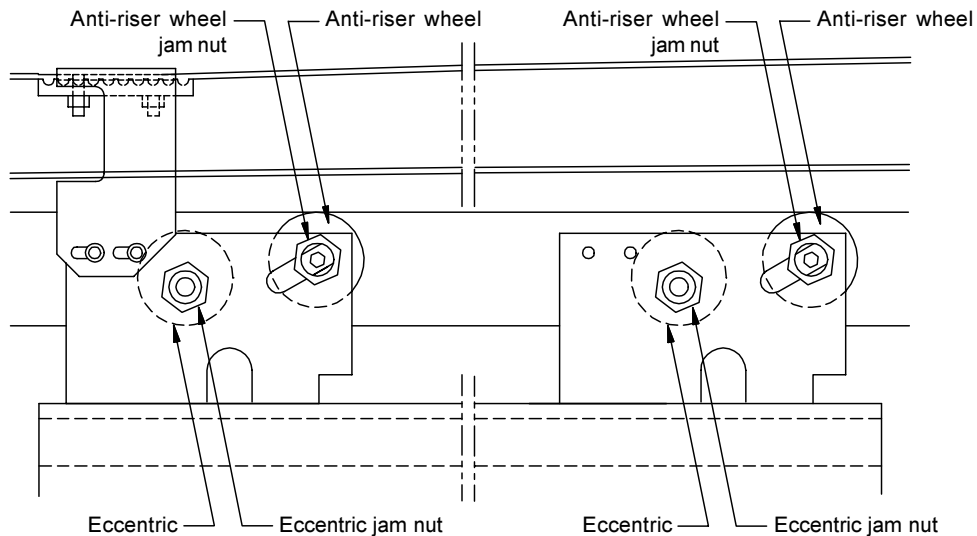

Figure 22. Adjust Anti-Riser Wheel Clearance
- 6.1. Use a 15/16" wrench to loosen the jam nuts on the eccentrics (**Figure 22**).